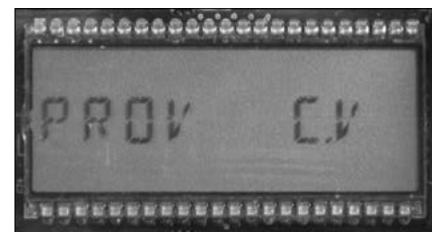

Figure 14.6 - LCD screen displays PROV C.V
- A. Swipe the magnet across the **"swipe line"** (next to the LCD screen display of the ES3) until the screen displays **PROV C.V** (Figure 14.6), and then stop swiping.